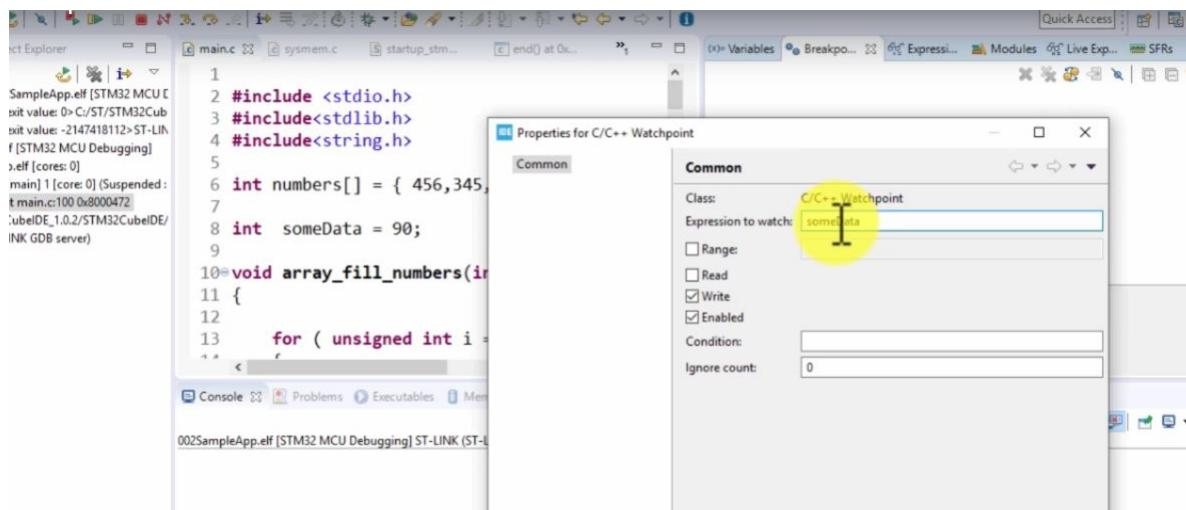

Figure 5.14: Adding Expression Name to Watchpoints
- Add an expression (like the variable name we are trying to monitor), as shown in Figure 5.14. In this example, the variable is `someData`.